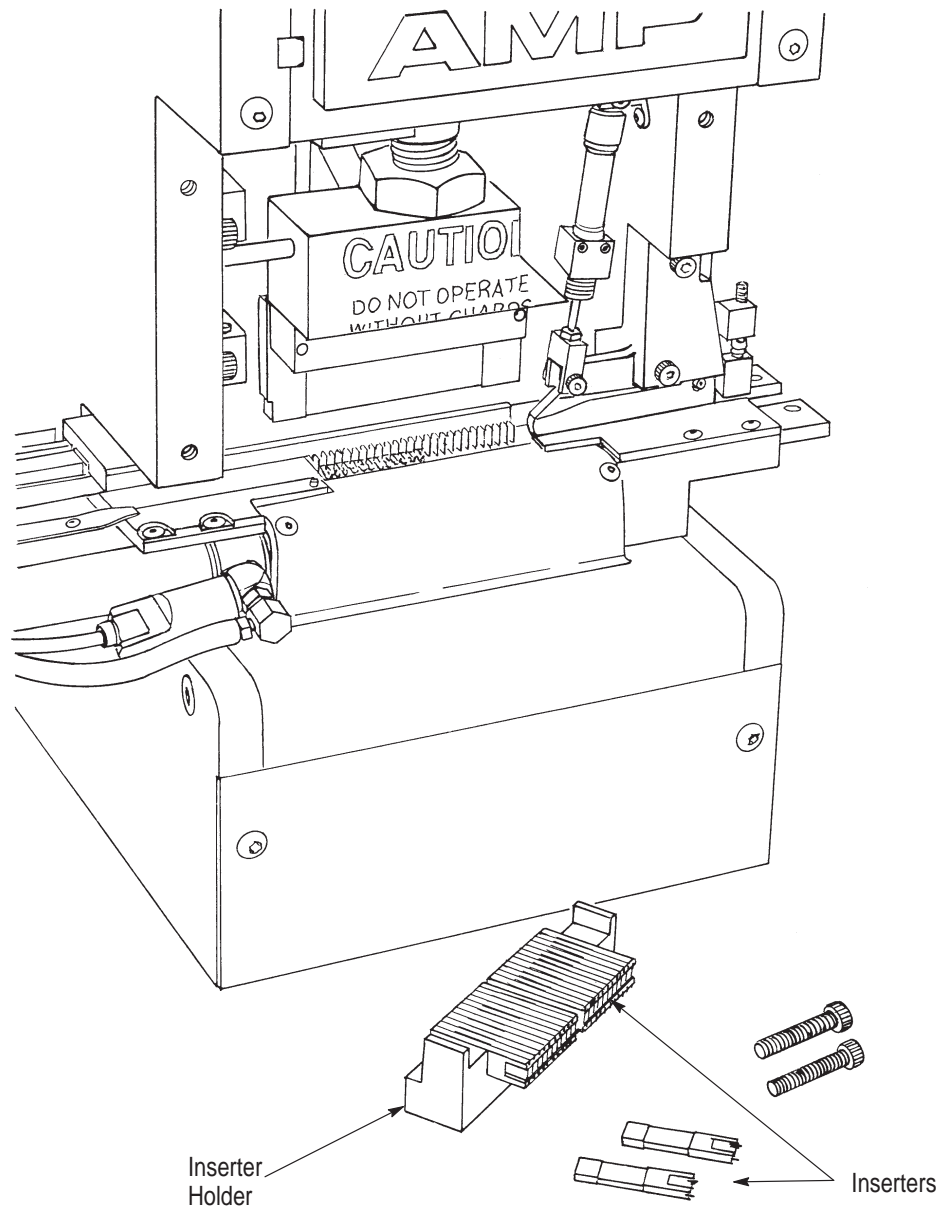

Figure 19
8.2. Replacing Inserters (Figure 19)